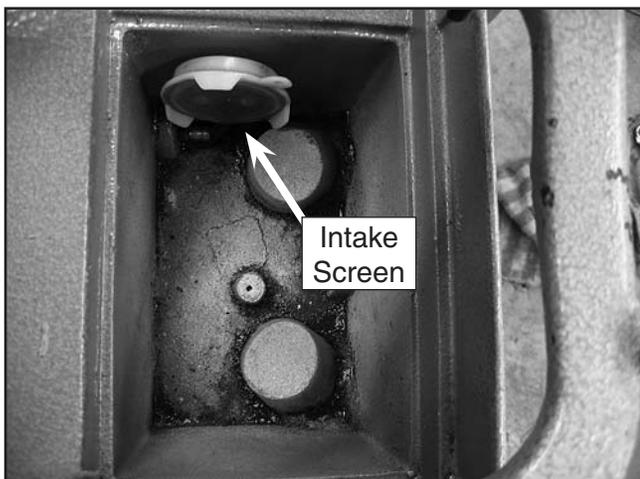

Figure 27. Intake screen lifted for cleaning.
3. After the reservoir has drained, clean the intake screen (access by removing screw and pivoting screen up) and the bottom of the reservoir, as shown in **Figure 27**.